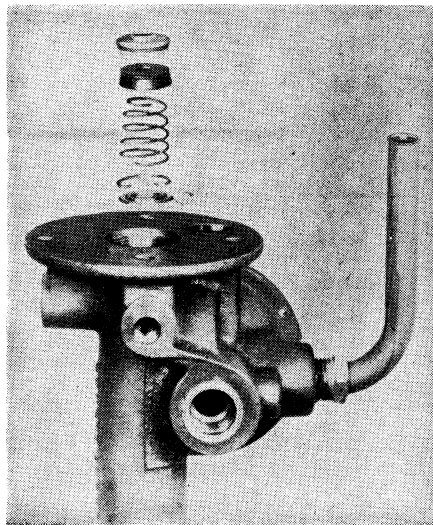

Fig. 46 Replacing push rod guide and seal, rubber cup and spring (1st design)
25. Figs. 46 and 47 illustrate the first and latest design push rod guide and seal. When repairing units having the first type, use the parts of the latest type.